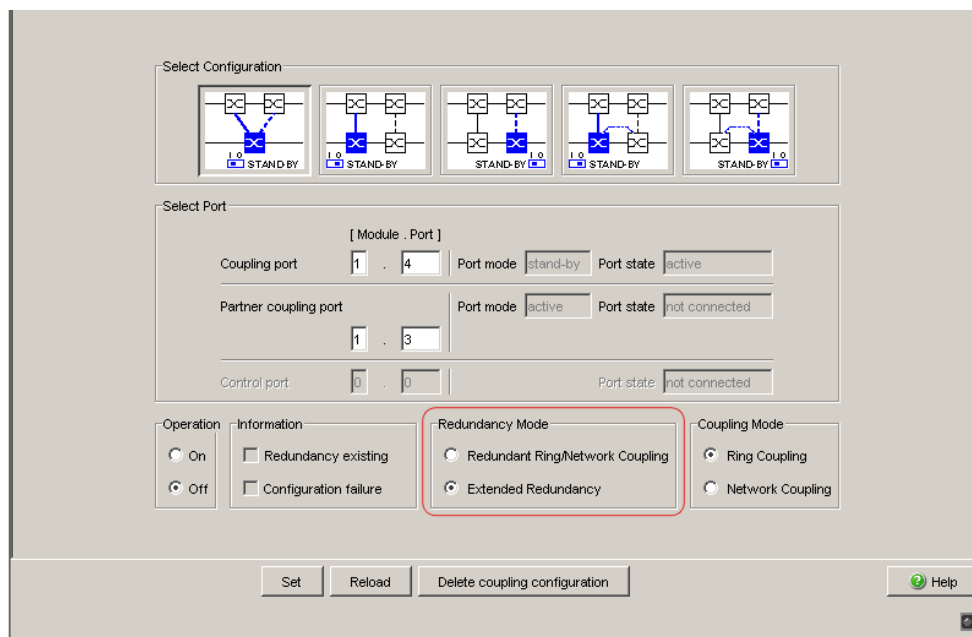

Figure 26: Selecting the redundancy mode
- ☐ In the “Redundancy Mode” frame, select (see fig. 26)